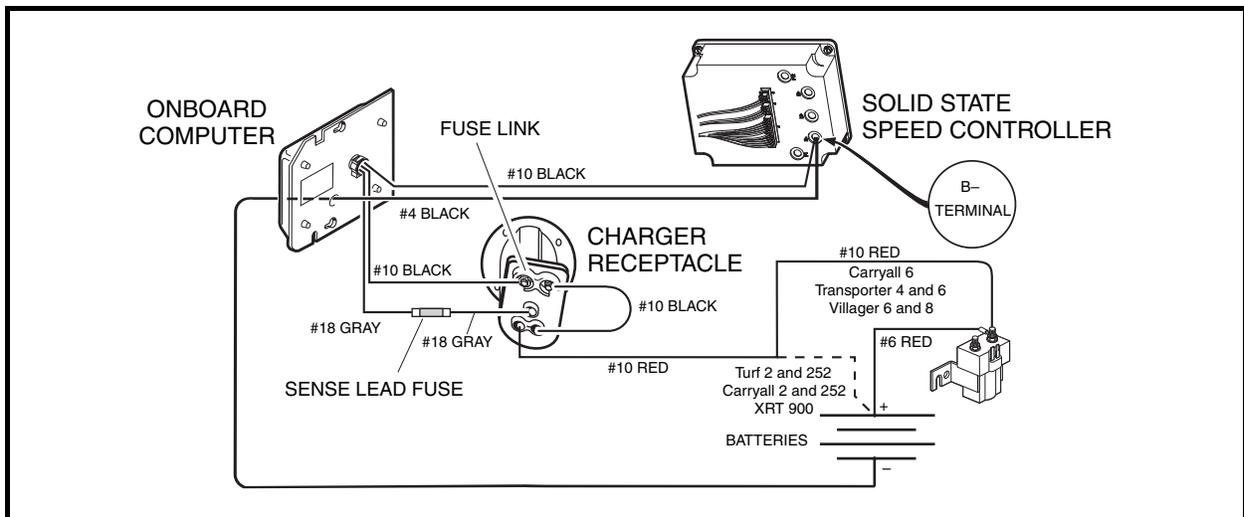

Figure 8-2 Charge Circuit
If the charger works with one vehicle, but does not work with another vehicle, then most likely the problem is in the vehicle charge circuit. Check the connections between the 18-gauge gray wire from the charger receptacle, the sense lead fuse, and the 18-gauge gray wire from the onboard computer. Also check connections of the fuse link located on the charger receptacle (**Figure 8-2, Page 8-3**).
3. If the charger does not operate exactly as described above, refer to the wiring diagram and make sure that the vehicle is wired correctly (**Figure 8-2, Page 8-3**) and that the internal charger wiring is correct (**Figure 8-5, Page 8-9**).